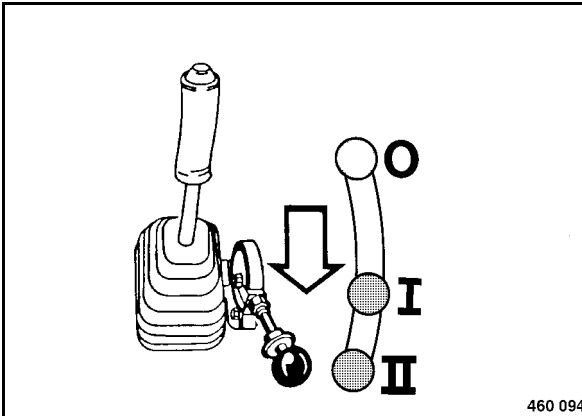

Fig. 50
- Shift the throttle lever (Fig. 50) to position "I" or "II" and lock it.